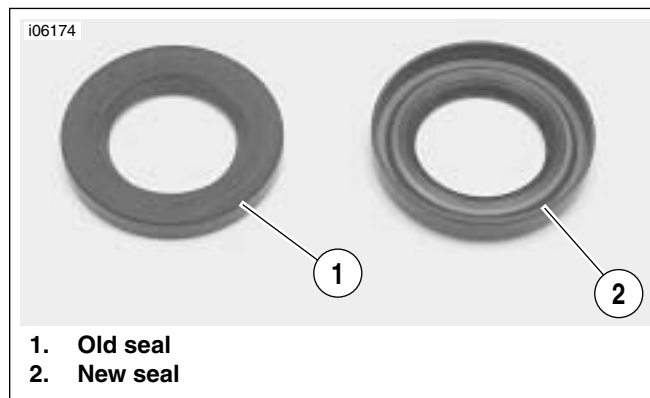

Figure 1. Comparison of Old and New Oil Seals
- See Figure 1. Note the difference in appearance between the old and new oil seals. The new seal is installed in the same orientation as the old seal; with the lip garter spring facing toward the mainshaft bearing.